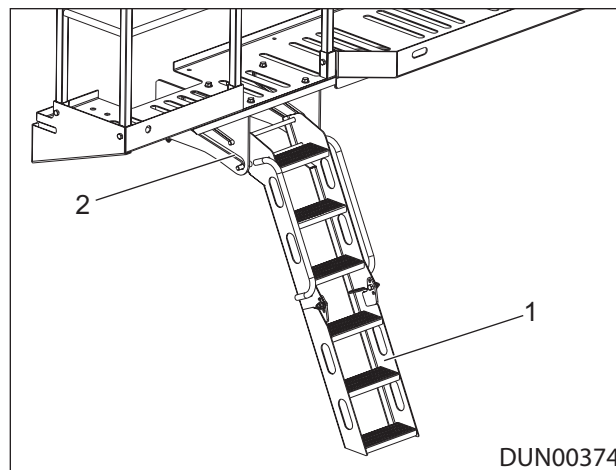

Figure 6.10 - Maintenance Platform Access Steps in the Working Position
1. Slide the folded maintenance platform access steps forward along the cutout in the mounting plate (item 2) into the working position, Ref: Figure 6.10.
2. Rotate the bottom section of the maintenance platform access steps (item 1) down into the working position, Ref: Figure 6.10.